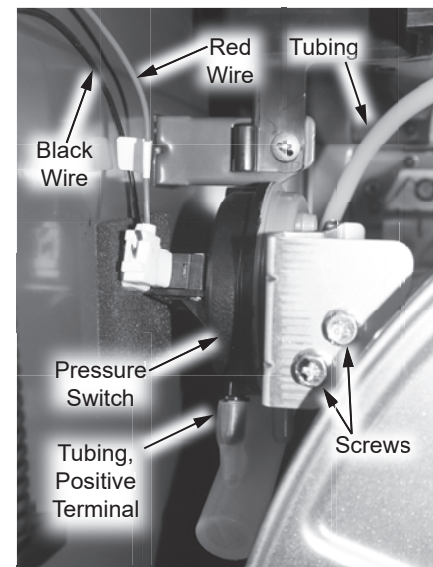

Figure 144 - Pressure switch assembly location
- 36 Locate the pressure switch assembly on upper left side of the heat exchanger as shown in Figure 144.
64 Connect tubing from pressure switch assembly to the port located on the heat exchanger exhaust as shown in Figure 30. Confirm tubing is fully secured to heat exchanger. Confirm tubing is connected to the positive terminal (black side) of the pressure switch assembly as shown in Figure 144.
65 Connect pressure switch wires previously removed in **Step 39**. Red connection is on the right and black connection is on the left. Confirm connections are tight and routed properly as shown in Figure 144.